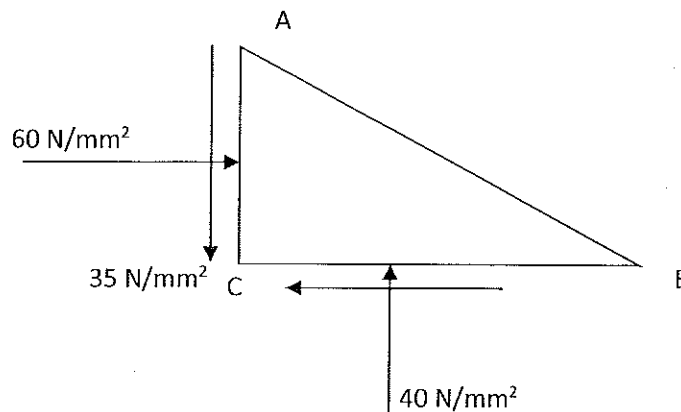

Fig.5(b)
- c) At a point in a strained material, on plane BC there are normal and shear stresses of 40 N/mm^2 and 35 N/mm^2 respectively. On plane AC, which is perpendicular to BC, there are normal and shear stresses of 60 N/mm^2 and 35 N/mm^2 respectively as shown in Fig.5(b). Determine the following: